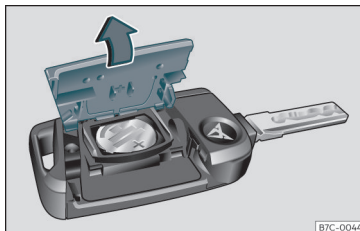

Fig. 111 Vehicle key: opening the battery compartment.
- Remove the cover from the back of the vehicle key >>> **Fig. 111** in the direction of the arrow >>> **ⓘ**.
- Fit the cover as shown >>> **Fig. 111**, pressing it onto the vehicle key casing in the opposite direction to that shown by the arrow until it clicks into place.